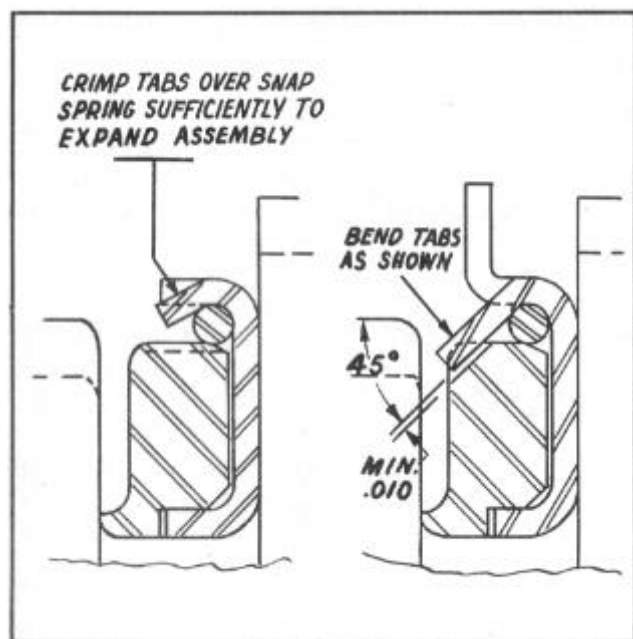

FIGURE 1
4. Install wire lock ring and bend all locking ears in recesses as shown in Figure 1.